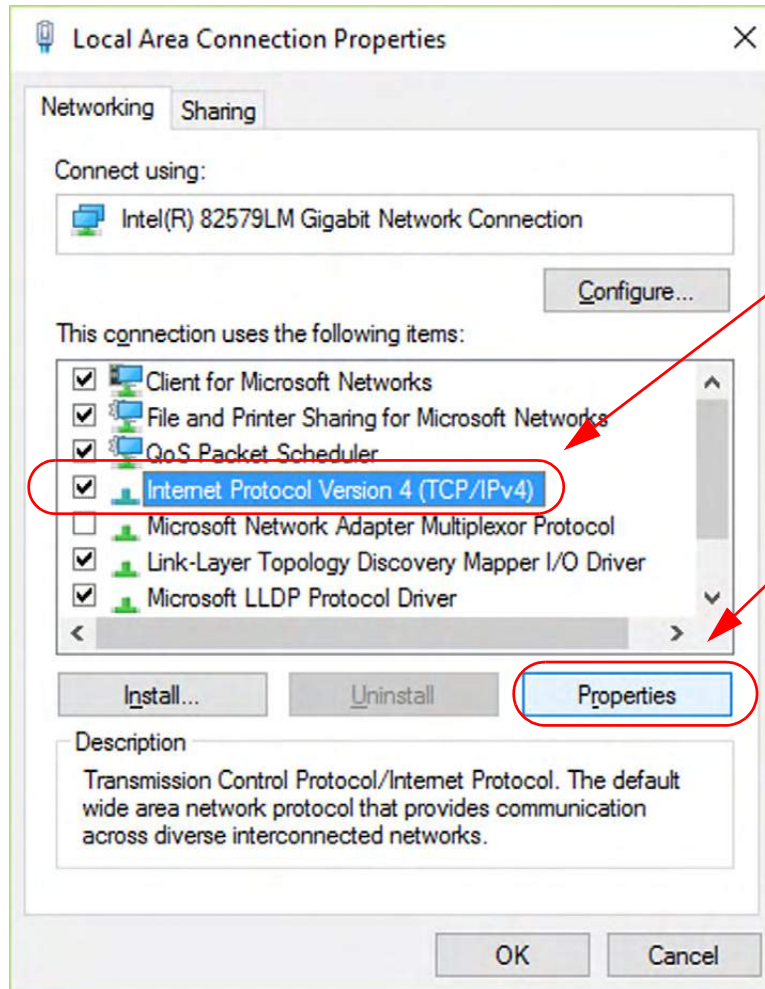

Figure 3.31: IPv4: Properties
- Now click on the Local Area Connection icon to set up IPv4 Properties (see Figure 3.31).